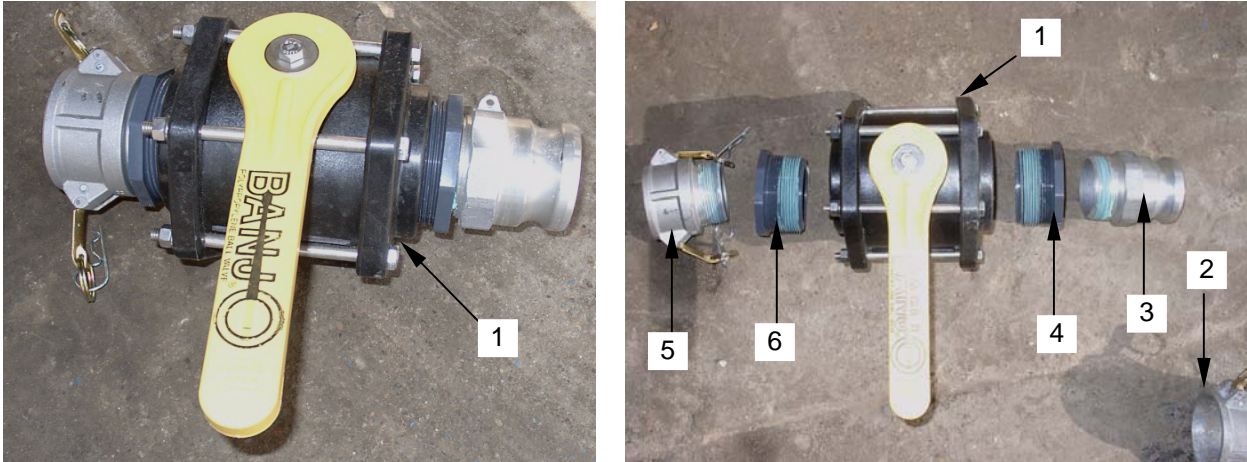

Figure 2. Disassembling the Ball Valve
2. Disassemble the chopper tube/wand and ball valve (**figure 2, item 1**) by disconnecting the chopper tube cam lock fitting (**figure 2, item 2**) from the ball valve male fitting (**figure 2, item 3**).
3. Using a pipe wrench, disconnect the male fitting (**figure 2, item 3**) from the valve fitting (**figure 2, item 4**) and the valve fitting from the ball valve (**figure 2, item 1**).
4. Disconnect the female cam lock hose fitting (**figure 2, item 5**) from the valve fitting (**figure 2, item 6**) and the valve fitting from the ball valve (**figure 2, item 1**).